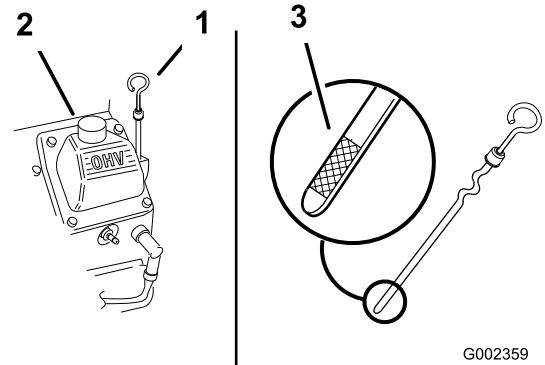

Figure 23
3. Clean around the oil dipstick (Figure 23) so that dirt cannot fall into the hole and damage the engine.
4. Remove the oil dipstick and wipe the end clean (Figure 23).
5. Slide the oil dipstick fully into the filler tube (Figure 23).
- Slowly pour approximately 80% of the specified oil into the filler hole (Figure 23).